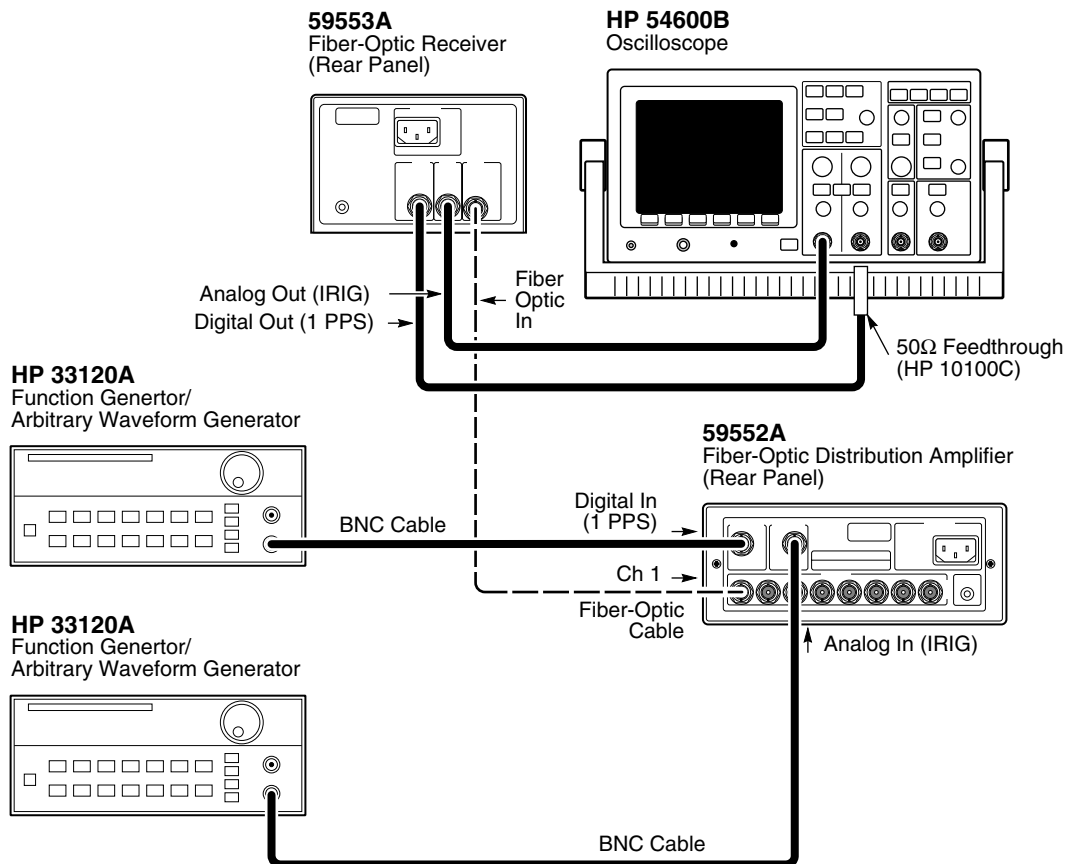

Figure 3-1. Operational Verification Setup
- 2 Connect the equipment as shown in Figure 3-1 to begin testing of the first fiber-output channel (**Ch 1**) of the 59552A.